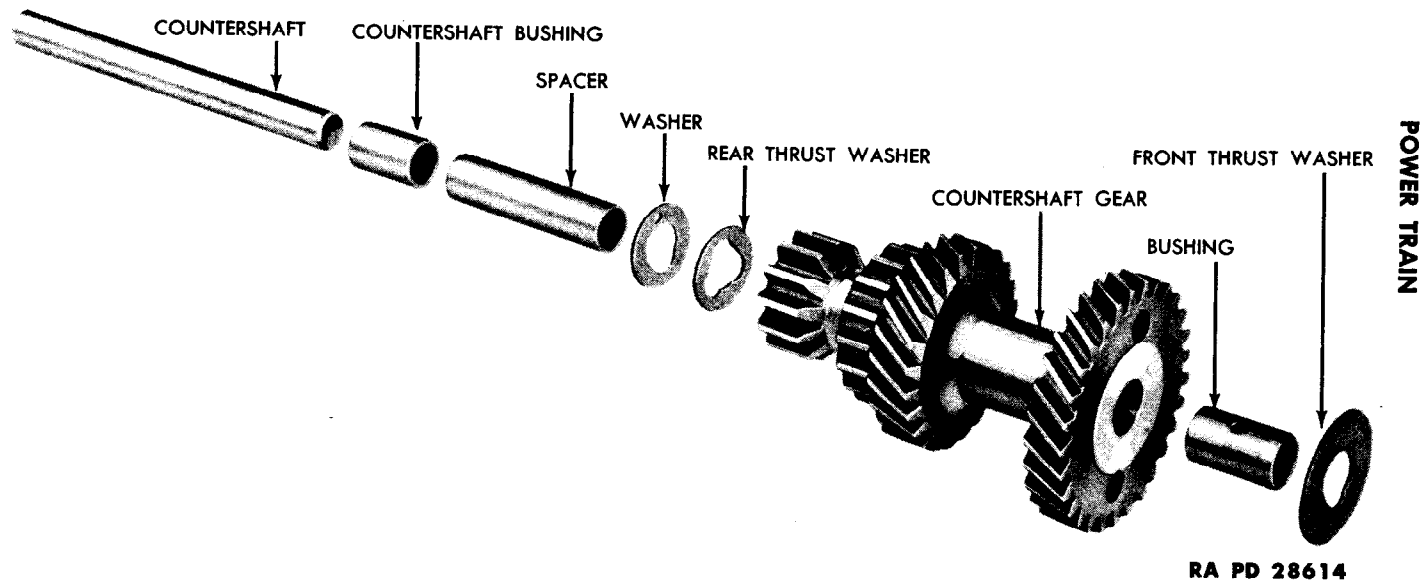

Figure 14 — Countershaft Gear Assembly — Exploded View
h. **Disassemble Countershaft Gear (fig. 14).** Remove the two bushings and spacer from the countershaft gear.
(6) **COUNTERSHAFT GEAR** (fig. 14). Replace excessively worn gears, and gears with broken or chipped teeth, or with pitted or discolored bearing surface due to overheating. Measure the front and rear bearing surfaces of the countershaft gear. If more than 0.7625 inch on either end, replace.
(8) **IDLE GEAR SHAFT AND COUNTERSHAFT** (figs. 14 and 15). Ridged, scored, or excessively worn, shafts must be replaced. An idle gear shaft measuring under 0.6185 inch or countershaft measuring under 0.7490 inch must be replaced.
(12) **COUNTERSHAFT THRUST WASHERS** (fig. 14). Replace excessively worn or ridged thrust washers. Measure each thrust wash-
(13) **COUNTERSHAFT BUSHINGS** (fig. 14). Excessively worn, scored, or ridged countershaft bushings must be replaced. Measure the inside and outside diameter of the bushings. If the outside diameter is less than 0.759 inch, or if the inside diameter is more than 0.6225 inch, the bushings must be replaced.
b. **Install Countershaft Gear** (fig. 14). Dip the countershaft bearings into SAE 90 oil. Slide the spacer into the countershaft gear and install a bushing in each end of the countershaft gear. Coat the front thrust washer, rear thrust washer, and steel washer with a light film of grease to hold them in place while installing the gear. Lay the countershaft gear in the case with the large gear toward the front.